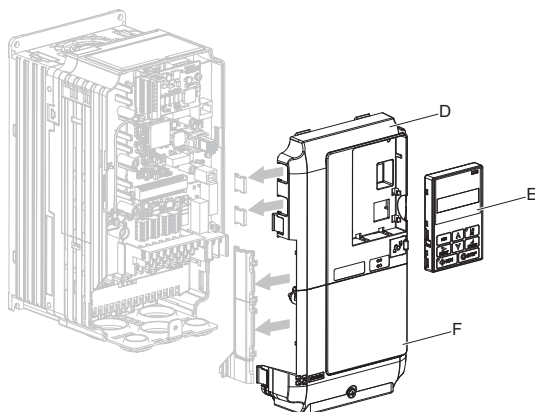

Figure 8 Replace the Front Covers and Digital Operator
5. Wire the motor PG encoder to the terminal block on the option. Refer to Figure 8 for wiring instructions. Refer to Option Terminal Functions on page 21 for a detailed description of the option board terminal functions.